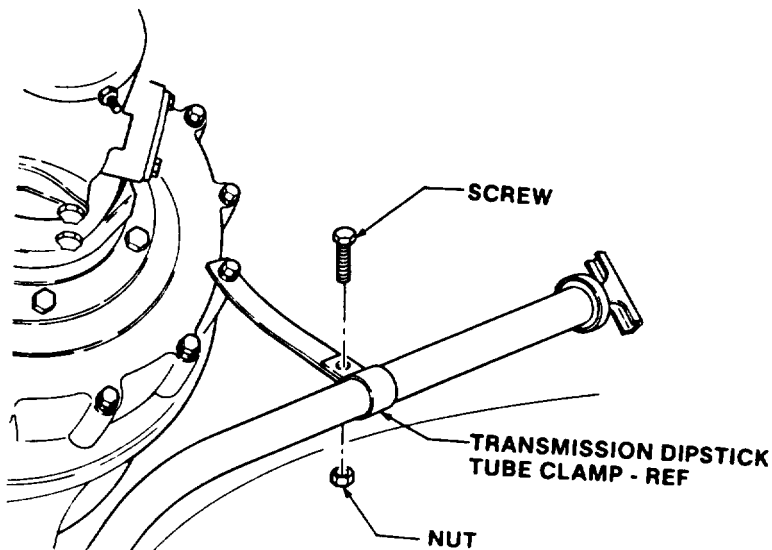

FIGURE 8
(15) Remove screw and nut from transmission dipstick tube clamp as shown in figure 8.